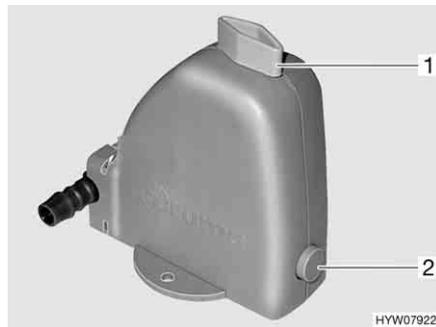

Fig. 182 Safety/drainage valve of the boiler
The boiler is equipped with a safety/drainage valve (Fig. 182). The safety/drainage valve prevents water in the boiler from freezing, when there is frost and the heater is not switched on.
- Close the safety/drainage valve. Turn the knob (Fig. 182,1) perpendicular to the safety/drainage valve and push the push button (Fig. 182,2) in.
- Open the safety/drainage valve. To do this turn the knob (Fig. 182,1) parallel to the safety/drainage valve. The push button (Fig. 182,2) jumps out. The boiler is drained to the outside by the safety/drainage valve.